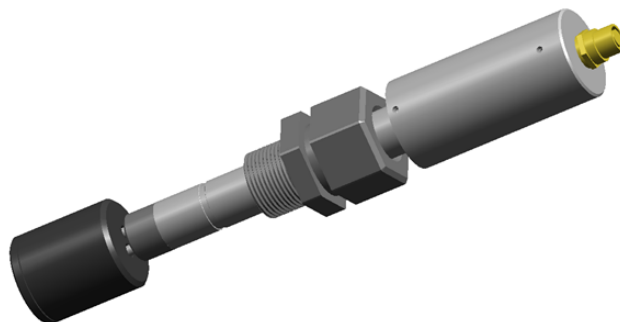

Figure 17.
2. Plug the sensor to the calibration appropriate calibration check cap and wait for at least for 15 minutes to allow the sensor to carry out three complete measurements (Figure 17).